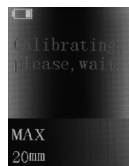

Figure 6
- Continue to move the product in the same direction. When the wall scanner is in the middle of the wooden beam, the screen will display the center icon and the property of the measured object (Figure 6).